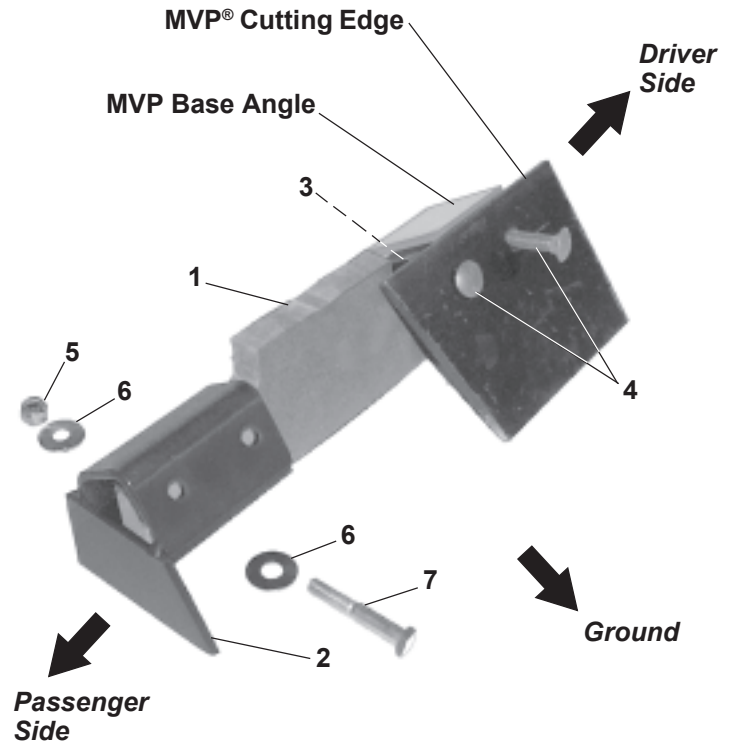

Figure 1
1. Using four 1/2" x 2" carriage bolts (Item 4) and 1/2" locknuts (Item 5), install one mounting plate weldment (Items 2 and 3) to the back of each cutting edge. (See Figure 1.)